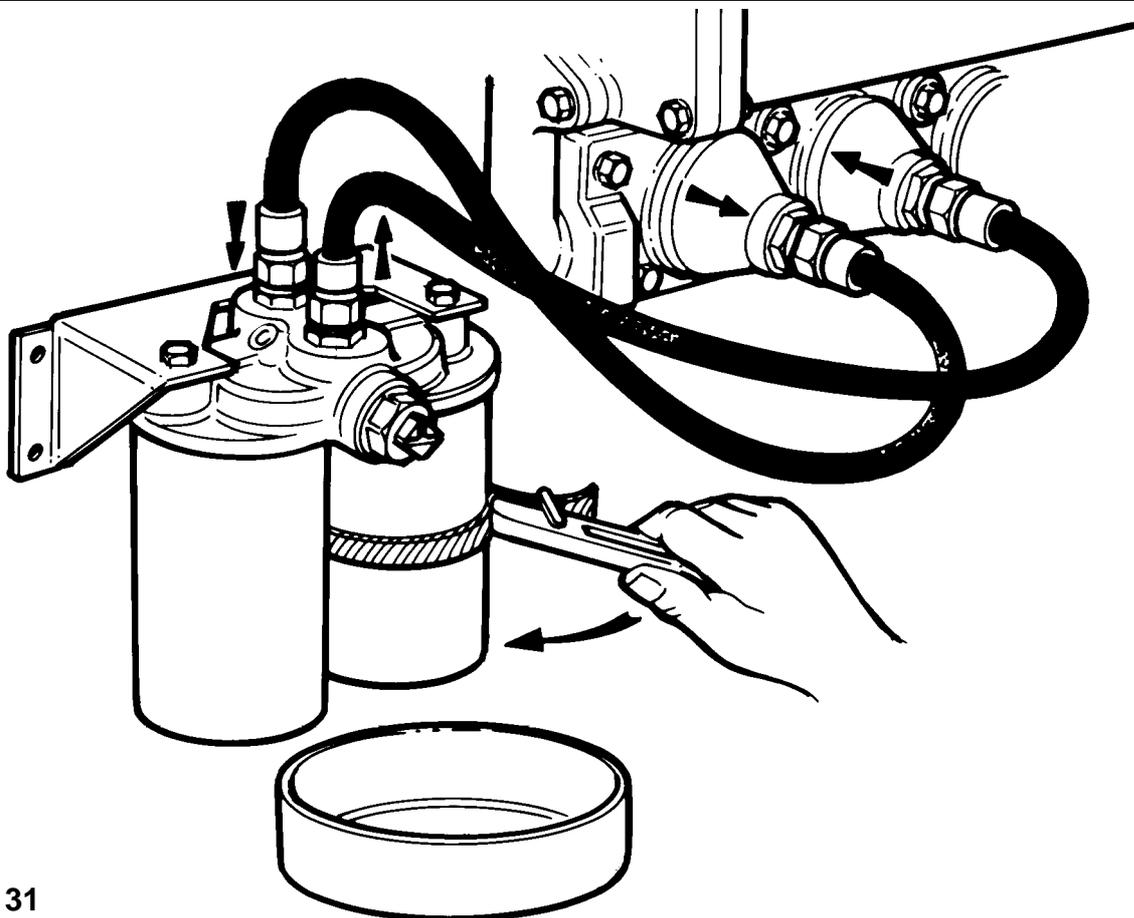

Fig. 31
**NOTE:** If the flexible connections to the filter are removed for any reason, it is essential that they are reconnected correctly to avoid unfiltered oil getting into the engine. See **Fig. 31**. Failure to change filters when due can also lead to trouble from unfiltered oil.
All that is necessary is to unscrew the canisters with a strap wrench as shown in **Fig. 31**, without moving the change-over valve, as there is no pressure in the system when the engine is stationary. The underside of the header is then wiped clean, and a smear of oil applied to the sealing rings on the new canisters, before screwing them up by hand and tightening them by no more than three quarters of a turn after the seals contact the header. Check the filter for leaks after the engine is restarted.